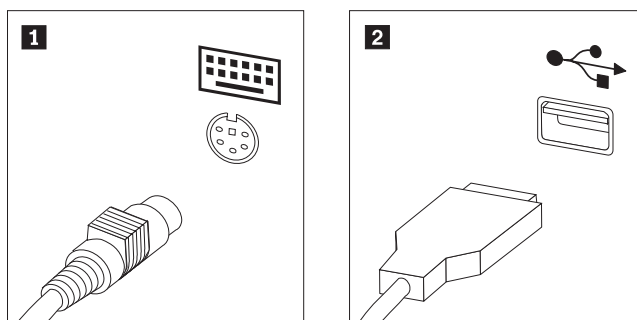

Figure 33. Keyboard connectors, standard and USB
3. Locate the keyboard connector. See Figure 33.